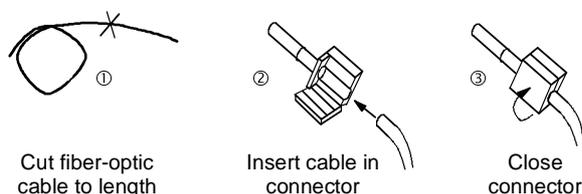

Fig. 5-7 Connecting a plastic cable
1. Cut the correct length of fiber-optic cable. Make sure you cut the cable at right angles, use a sharp knife. (Fig. 5-7 ①)
3. Insert the fiber-optic cable into the connector (Fig. 5-7 ②) and push it into the cylindrical sleeve as far as it will go. The transparent fiber optic will protrude out of the other side of the sleeve.
4. Fold round the gripping half of the connector and close it by hand (Fig. 5-7 ③). Once the top half of the connector is latched into the lower half, the cable is lodged securely in the connector.